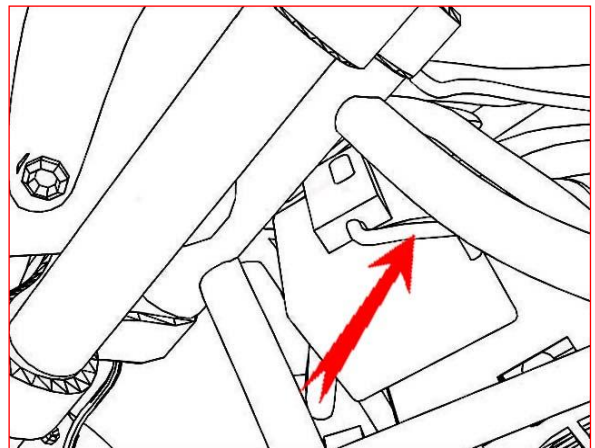

Figure 11
10. **Route the TFI harness as shown. The TFI wiring should be between the frame and the OEM harness that goes over the battery negative. (see figure 11)**